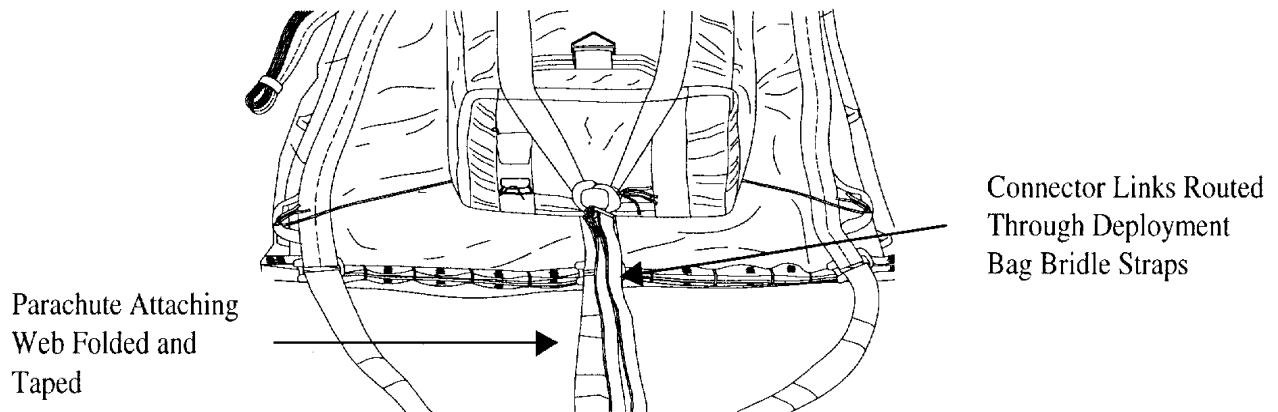

Figure 13. Breakcord and Bridle Attached to the Parachute.
- d. Pass the running ends of each tie through carrying handle of top Extraction Line Panel. Secure each tie to the bottom-carrying handles with alternating half-hitches (figure 13).
- c. Fold the remaining bridle of the parachute attaching web and tape it to center extraction bridle (figure 13).